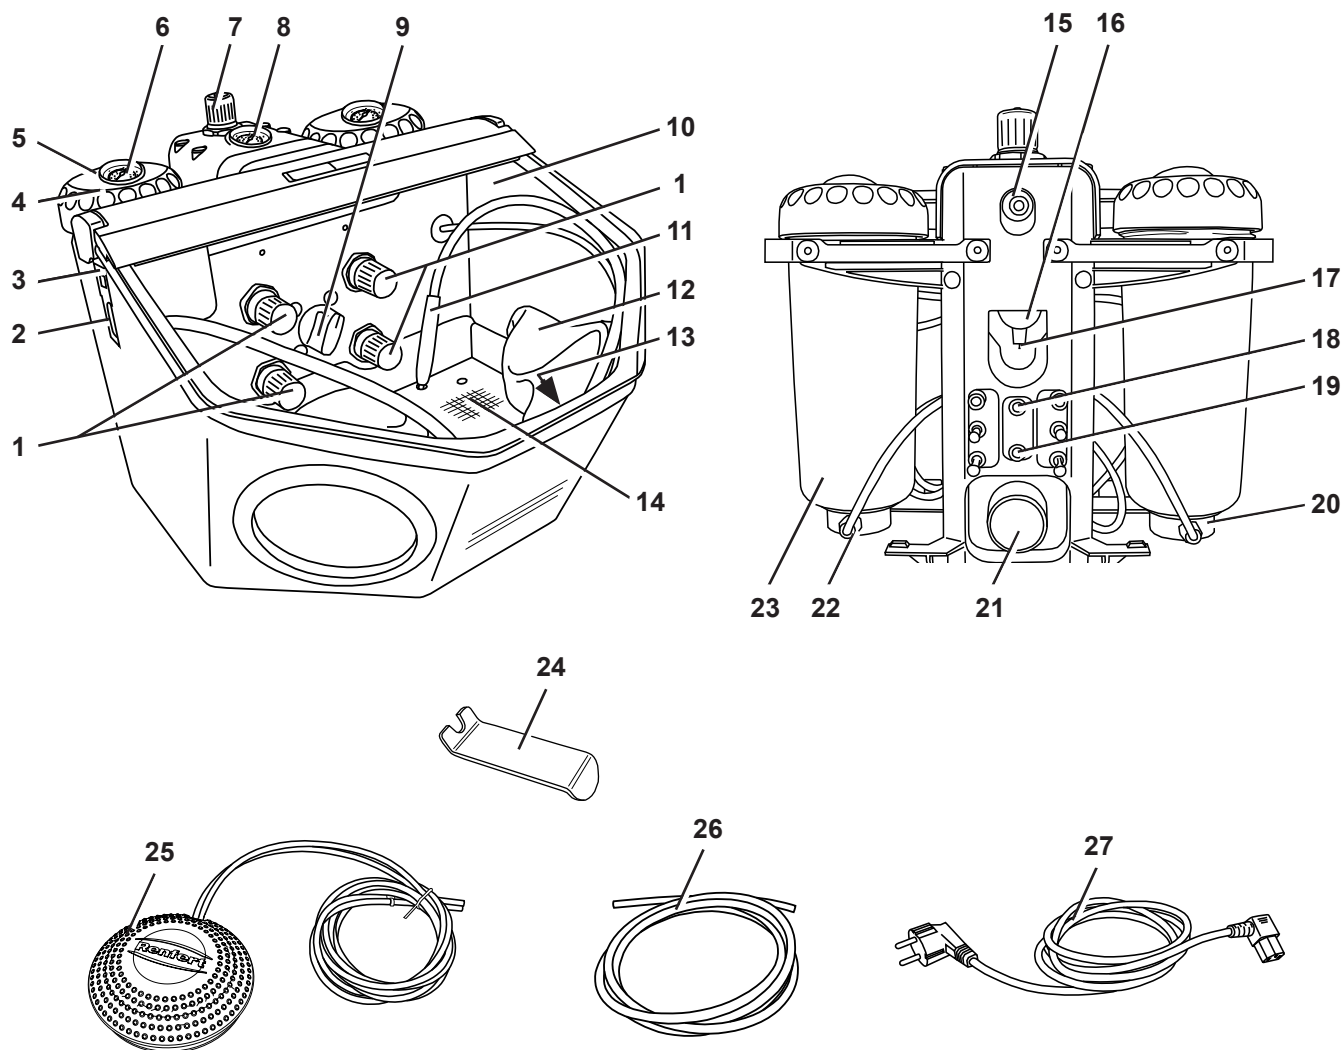

Fig. 1
- ⇒ Push the compressed air tube (26) onto the tube connection point (15) as far as it will go. In doing so there will be a slight resistance to overcome.
- ⇒ Check whether the pressure is at the required level (see tech. data). Display will be shown on the manometer (8, Fig. 1).